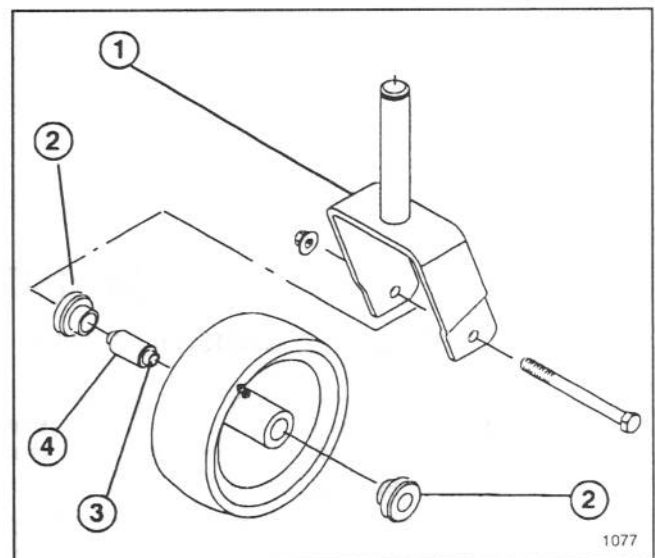

Figure 11
1. Remove lock nut and wheel bolt holding castor wheel between castor fork (Fig. 11).
4. Inspect bearing, spanner, bushing and inside of wheel hub for wear. Replace defective parts (Fig. 11).
5. To assemble place one (1) bushing into wheel hub. Grease bearing and spanner bushing and slide into wheel hub. Place second bushing into wheel hub.